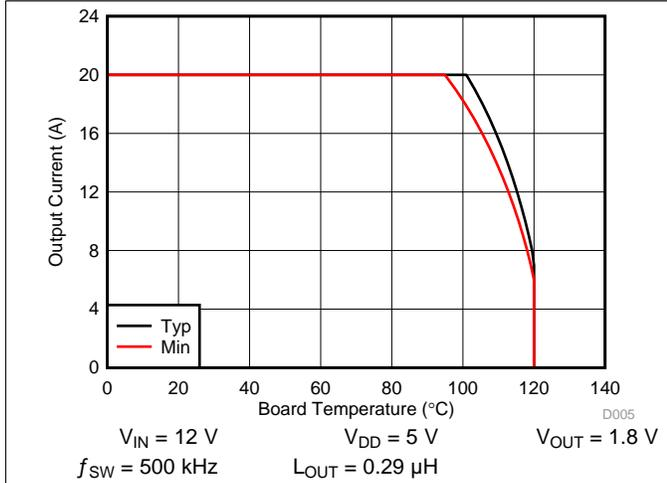

Figure 5. Typical Safe Operating Area (1)
The SOA curves in the CSD97376Q4M data sheet give engineers guidance on the temperature boundaries within an operating system by incorporating the thermal resistance and system power loss. Figure 3 and Figure 5 outline the temperature and airflow conditions required for a given load current. The area under the curve dictates the safe operating area. All the curves are based on measurements made on a PCB design with dimensions of 4 in (W) x 3.5 in (L) x 0.062 in (T) and 6 copper layers of 1-oz copper thickness.